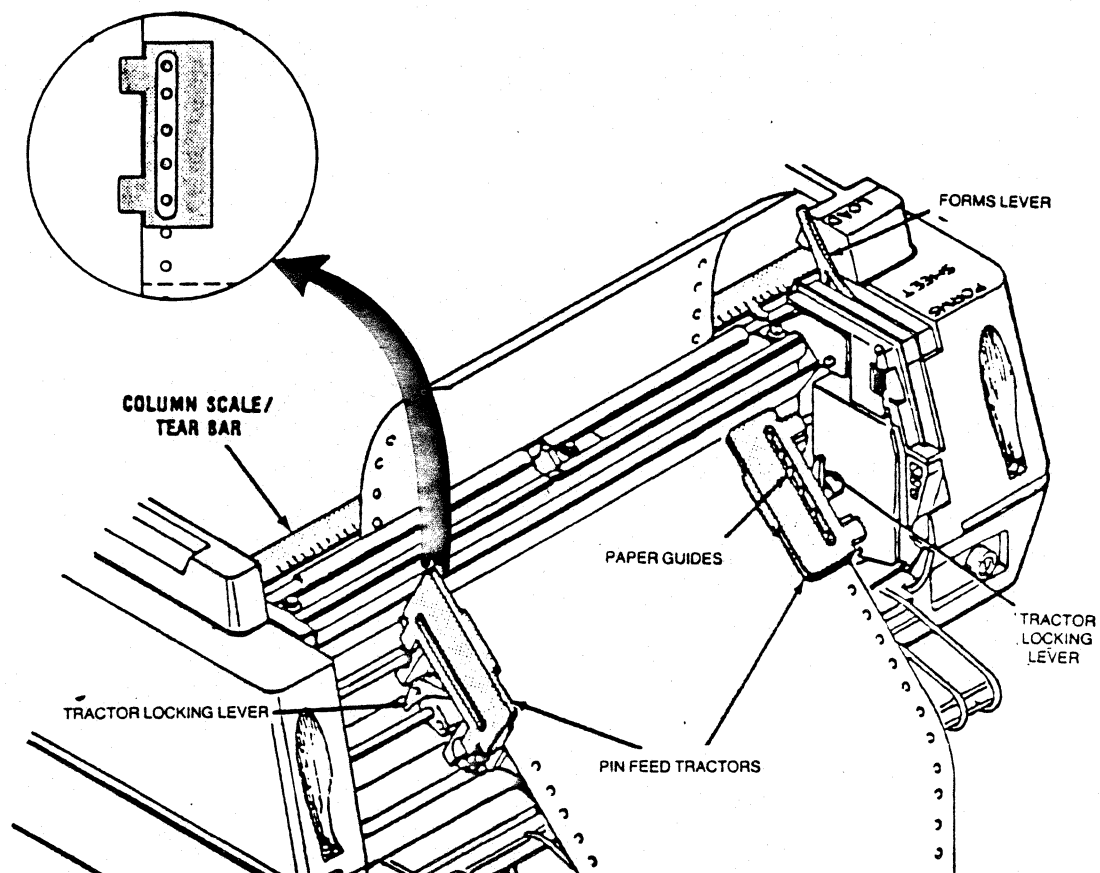

Figure 1-13 Adjusting for Forms Width/Centering Forms on Pins
2. Unsnap and lift the rear cover from the printer. (Refer to Figure 1-13.)